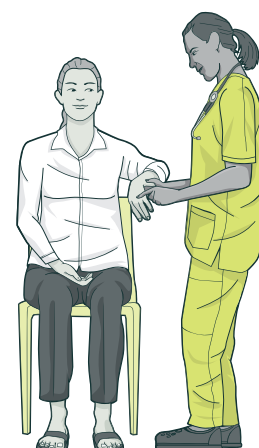

FIGURE 2: Exposure monitoring and health monitoring
- 3.5.4 Figure 2 explains what exposure monitoring and health monitoring are.